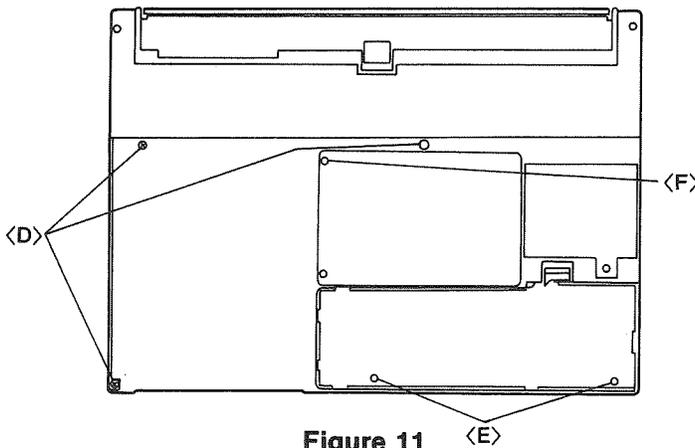

Figure 11
(9) Turn over the computer and remove three screws <D> (2.6×8mm), two screws <E> (2.6×6mm), and one screw <F> (2.6×24mm) as shown in Figure 11.